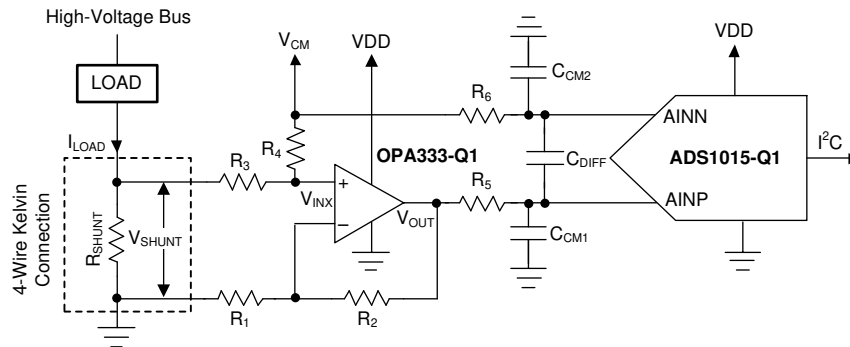

Figure 8-6. Low-Side Current Shunt Monitoring
Shunt-based, current-measurement solutions are widely used to monitor load currents. Low-side, current-shunt measurements are independent of the bus voltage because the shunt common-mode voltage is near ground. Figure 8-6 shows an example circuit for a bidirectional, low-side, current-shunt measurement system. The load current is determined by measuring the voltage across the shunt resistor that is amplified and level-shifted by a low-drift operational amplifier, OPA333-Q1. The OPA333-Q1 output voltage is digitized with ADS1015-Q1 and sent to the microcontroller using the I²C interface. This circuit is capable of measuring bidirectional currents flowing through the shunt resistor with great accuracy and precision.
1. To level-shift the ground-referenced signal to allow bidirectional current measurements while running off a unipolar supply. The voltage across the shunt resistor, V_{SHUNT} , is level-shifted by a common-mode voltage, V_{CM} , as shown in Figure 8-6. The level-shifted voltage, V_{INX} , at the noninverting input is given by Equation 3.
A shunt resistor (R_{SHUNT}) is an accurate resistance inserted in series with the load as described in 図 8-6. If the absolute voltage drop across the shunt, $|V_{SHUNT}|$, is a larger percentage of the bus voltage, the voltage drop can reduce the overall efficiency and system performance. If $|V_{SHUNT}|$ is too low, measuring the small voltage drop requires careful design attention and proper selection of the ADC, operation amplifier, and precision resistors. Make sure that the absolute voltage at the shunt terminals does not result in violation of the input common-mode voltage range requirements of the operational amplifier. The power dissipation on the shunt resistor increases the temperature because of the current flowing through the resistor. To minimize the measurement errors resulting from variation in temperature, select a low-drift shunt resistor. To minimize the measurement gain error, select a shunt resistor with a low tolerance value. To remove the errors caused by stray ground resistance, use a four-wire Kelvin-connected shunt resistor; see 図 8-6.